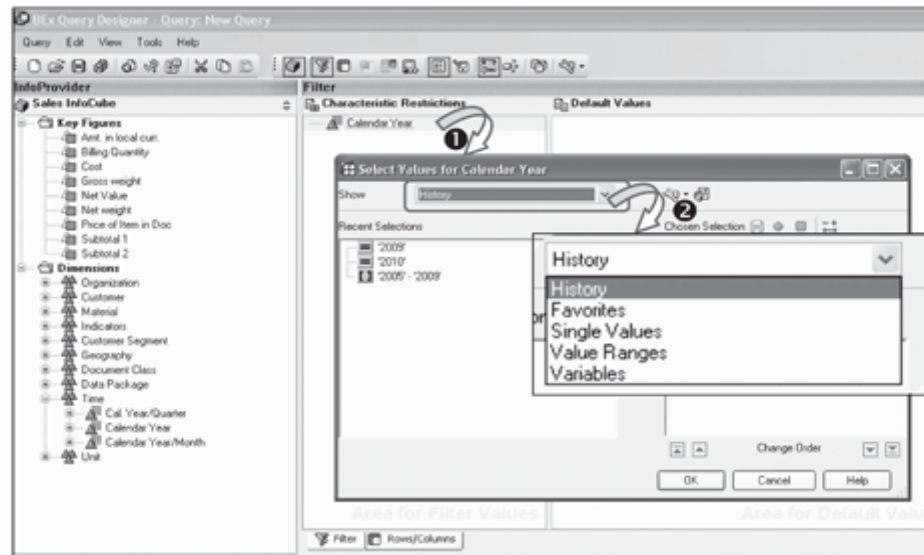

Figure 9.39 Restricting a Characteristic
To create these restrictions in a query, first drag the relevant characteristic into the Characteristic Restrictions area of the query, and then call the restrictions window from the context menu of the characteristic (❶ of Figure 9.39).